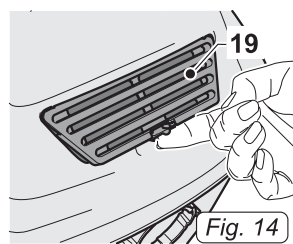

Fig. 14
- Release the filter (19 Fig.14) and remove it from the appliance.